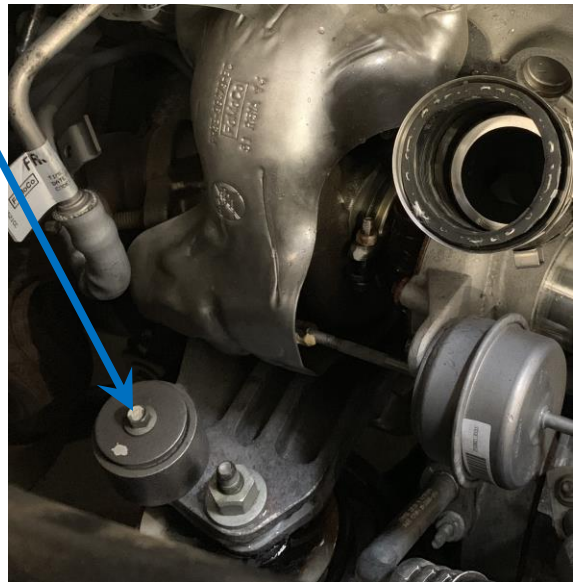

Fig. 11
1. Removing the dampener gives greater access to the heat shield bolt. Remove bolt and dampener from bracket. See Fig. 11 (use 10mm socket)